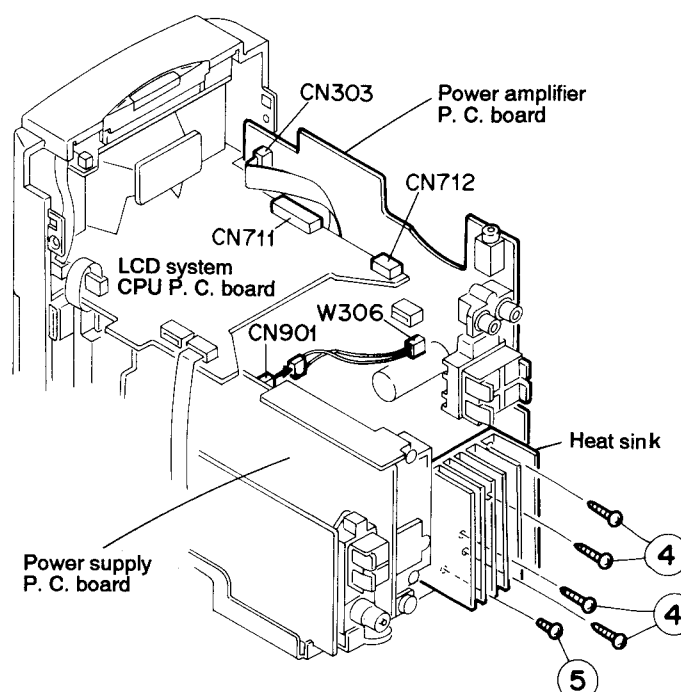

Fig. 5-9
(See Figs. 5-9 and 5-10)
4. Remove the five screws **4** and **5** retaining the heat sink (See Fig. 5-9).
5. From the connector CN303 on the power amplifier P. C. board, disconnect the card wire outgoing from the connector CN34 on the head amplifier & mechanism control P. C. board (See Fig. 5-9).
6. From the connector CN901 on the power supply board, disconnect the connector wire outgoing from the connector W306 on the power amplifier P. C. board (See Fig. 5-9).
8. Remove the power amplifier P. C. board from the two connectors CN711 and CN712 on the LCD system CPU P. C. board (See Fig. 5-9).